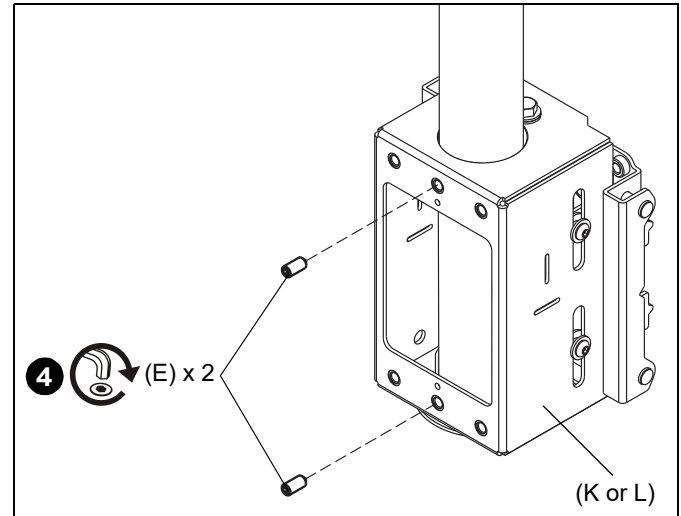

Figure 2
- Tighten two 5/16" x 3/4" set screws (E) against column. (See Figure 2)